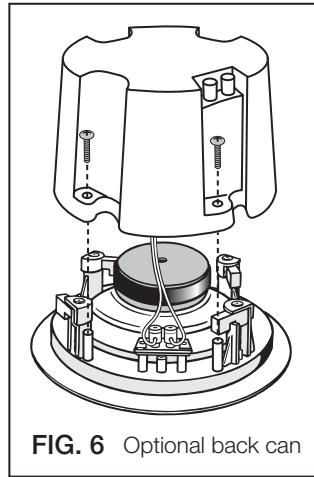

FIG. 6 Optional back can
**NOTE: (See FIG. 6 on the back) If you plan to use the optional back can enclosure, you need to attach it now (refer to back can manual for installation instructions).**